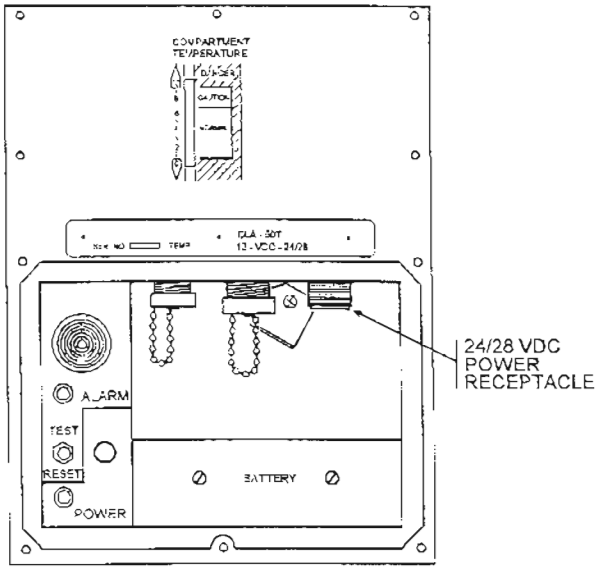

Figure 3-13. 24/28 VDC receptacle.
b. The power supply is well protected within a closed metal box. Two cables extend from the unit. One cable connects the main AC source to the power supply, and one cable connects the power supply to the 24/28 VDC receptacle of the control panel (fig 3-13) marked 24/28 VDC.